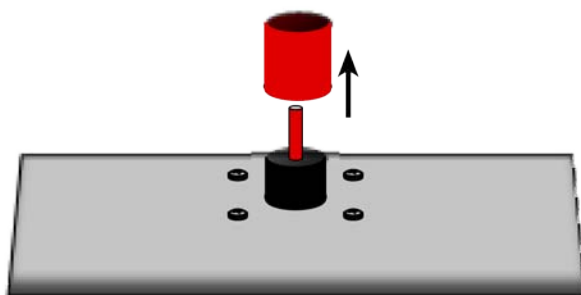

Figure 2. Probe and Probe Assembly Protective Covers
Figure 2 shows the protective covers that are around the probe and the probe assembly at the top of the Model 6496 Freezing Rain Sensor enclosure. *Do not remove* these protective covers until the enclosure installation has been completed.
3. Remove the two probe protective covers shown in Figure 2.